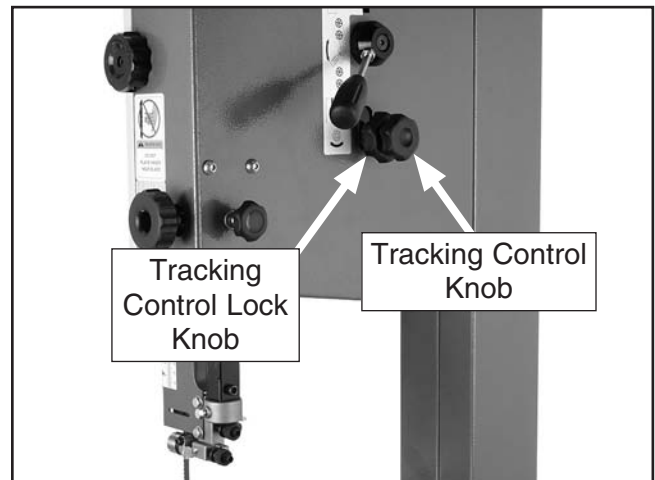

Figure 23. Location of tracking control knob.
6. Loosen the tracking control lock knob (**Figure 23**) so that the tracking control knob will rotate for adjustments.